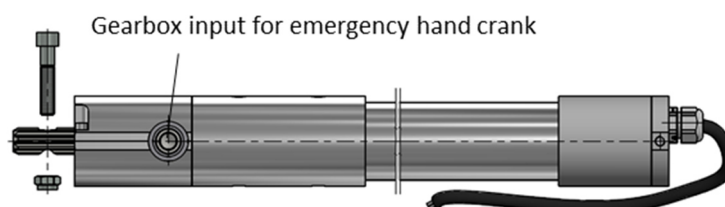

Figure 7-1: input for emergency hand crank
- Insert the emergency hand crank into the designated input (Figure 7-1) in the gear unit and turn the crank until your application is secured.